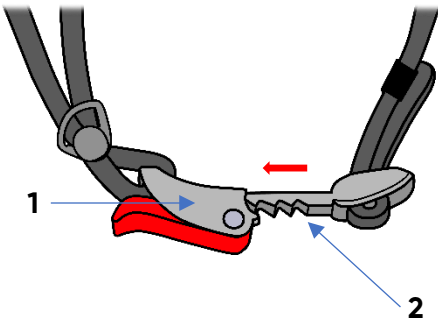
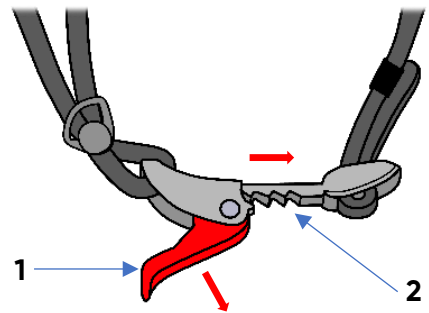

Fig. 4
Fig. 5
To fasten the strap, insert the strap element (1) into the clip (2) (Fig.4) To unfasten the strap, pull the clip (1) and release the strap element (2) from the clip. (Fig.5)